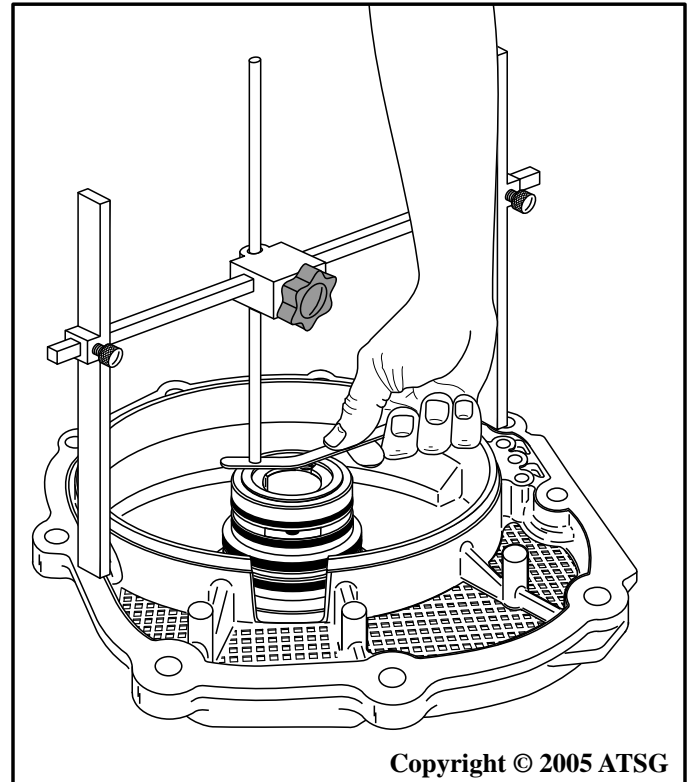

Figure 188
71. Now, turn "H" gage over and set on the rear cover, as shown in Figure 188.
72. Measure with feeler gage between number 8 thrust plate and adjustment rod, as shown in Figure 188, for proper rear end clearance.